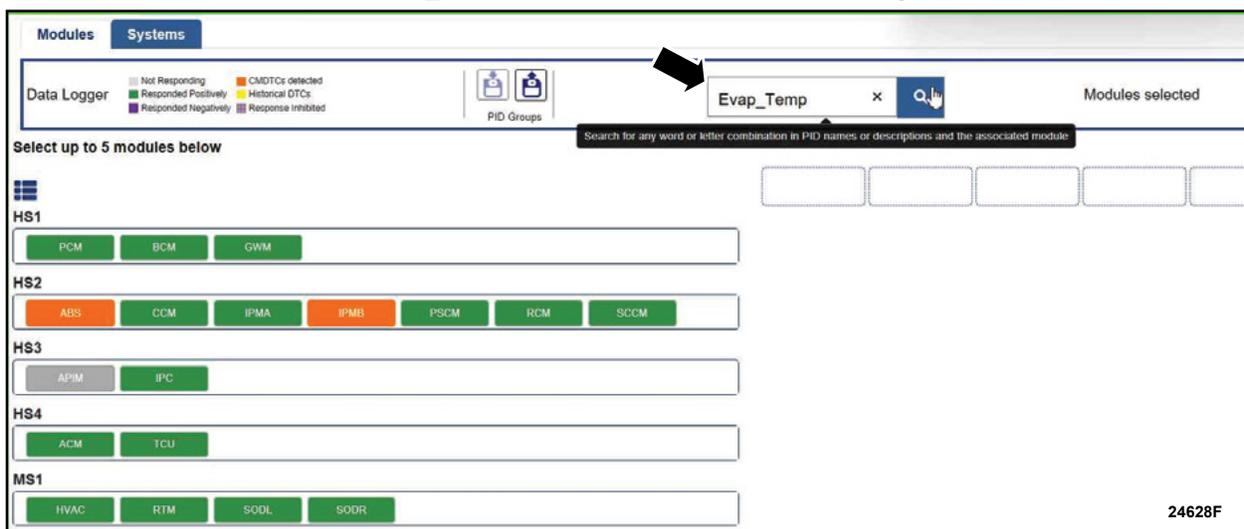

FIGURE 8
18. Use the search bar, enter **EVAP_TEMP** and then click **SEARCH**. See Figure 8.